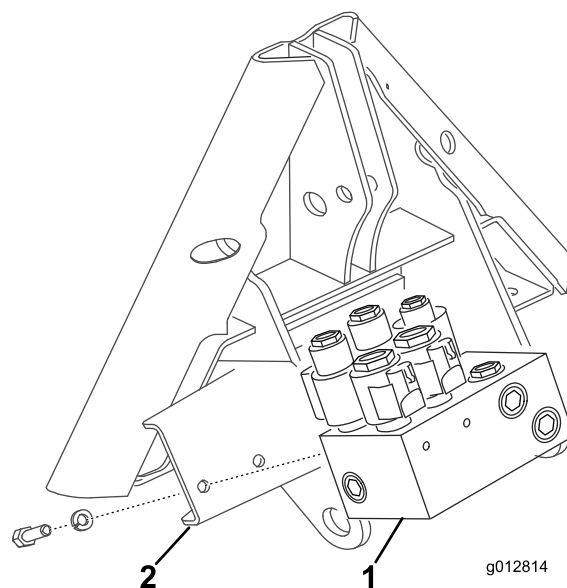

Figure 6
- Mount the hydraulic manifold to the back of the lift adapter with 2 screws ($\frac{5}{16} \times \frac{3}{4}$ inch) and lockwashers ($\frac{5}{16}$) (Figure 6).